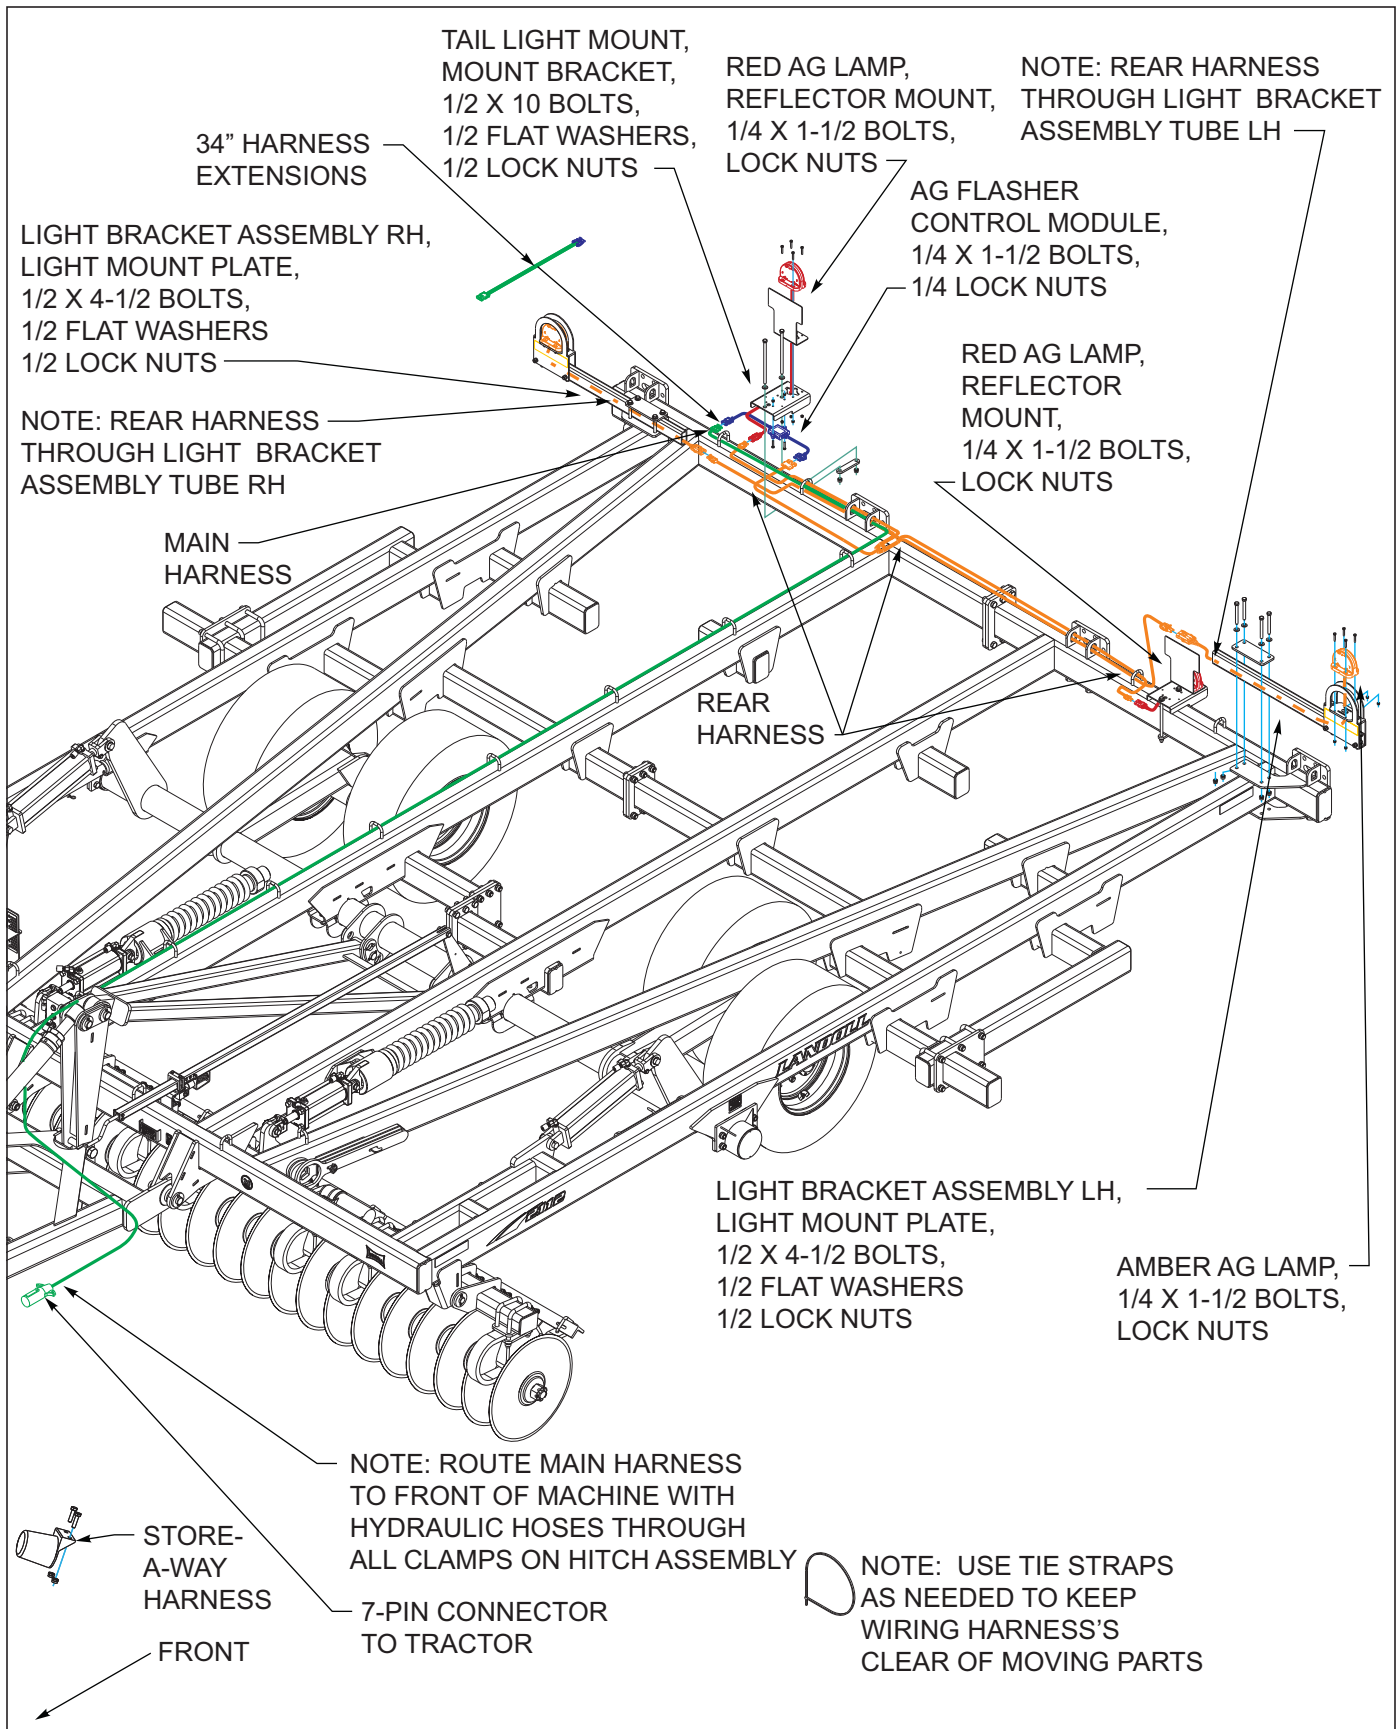

Figure 3-18: LED Light Installation
1. Attach LH and RH light bracket assemblies, light mounts, light mount plates to center frame using 1/2 x 4-1/2 bolts, 1/2 flat washers and 1/2 lock nuts See Figure 3-18.
5. Install the rear harness to the rear tube of frame See Figures 3-18. Connect the 3 pin ends to the red warning lights, 2 pin ends to the amber warning lights and connect the 6 pin connector to the ag flasher control module. See Figure See Figures 3-17 for LED harness wire designations.
8. Two 34" harnesses are provided if needed for main harness to reach from flasher control module to the tractor See Figures 3-18.